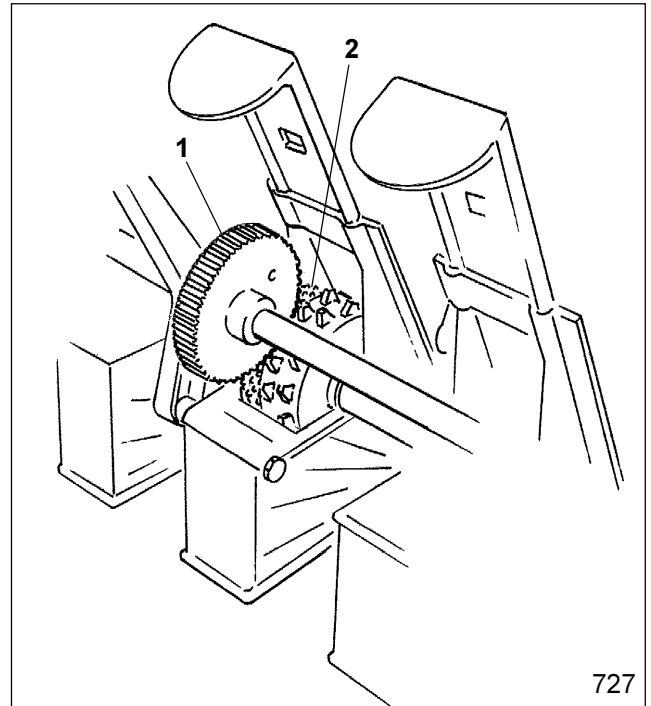

Fig. 18.30
- Let sprocket engage with the drive pinion (Fig. 18.30/1) on the tramline fine seed metering wheels (Fig. 18.30/2). Fix drive pinion on the counter shaft.